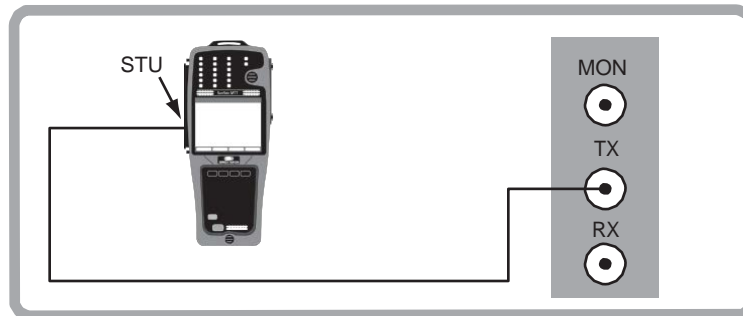

Figure 50 Measuring E1 Signal Level
4. Connect the test set into the circuit as shown in Figure 50 and press HISTORY to acknowledge any blinking LEDs.